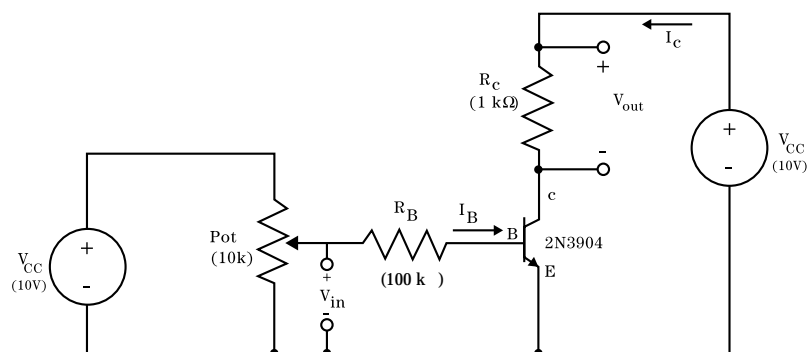

Figure 1
Read Sections 4-1 to 4-3 in the textbook on dependent sources and transistors. Assume the transistor you will be using has a nominal β of 200. The transistor will enter the active region when V_{in} reaches the turn-on voltage V_T . For the circuit of Fig. 1, calculate the value of V_{in} that will cause the transistor to enter saturation.
- c. On a protoboard, build the circuit of Fig. 1. Turn on the power supply and adjust the potentiometer so that V_{out} is 5 V.
- a. Measure the slope of the line in the active region of the transistor input/output characteristics plot for your particular transistor. Using the measured slope and Eq. (1), calculate the average β . Does this β agree with the β measured in Procedure 2a of this lab?
- b. Draw three schematic diagrams for the circuit of Fig. 1, one for each operating mode, however substitute the large-signal transistor model for the transistor element in each circuit. For all three circuits write two KVL loop equations, one for the base-emitter side (which will include the voltage across R_b) and one for the collector-emitter side of the circuit (which includes the voltage across R_c).